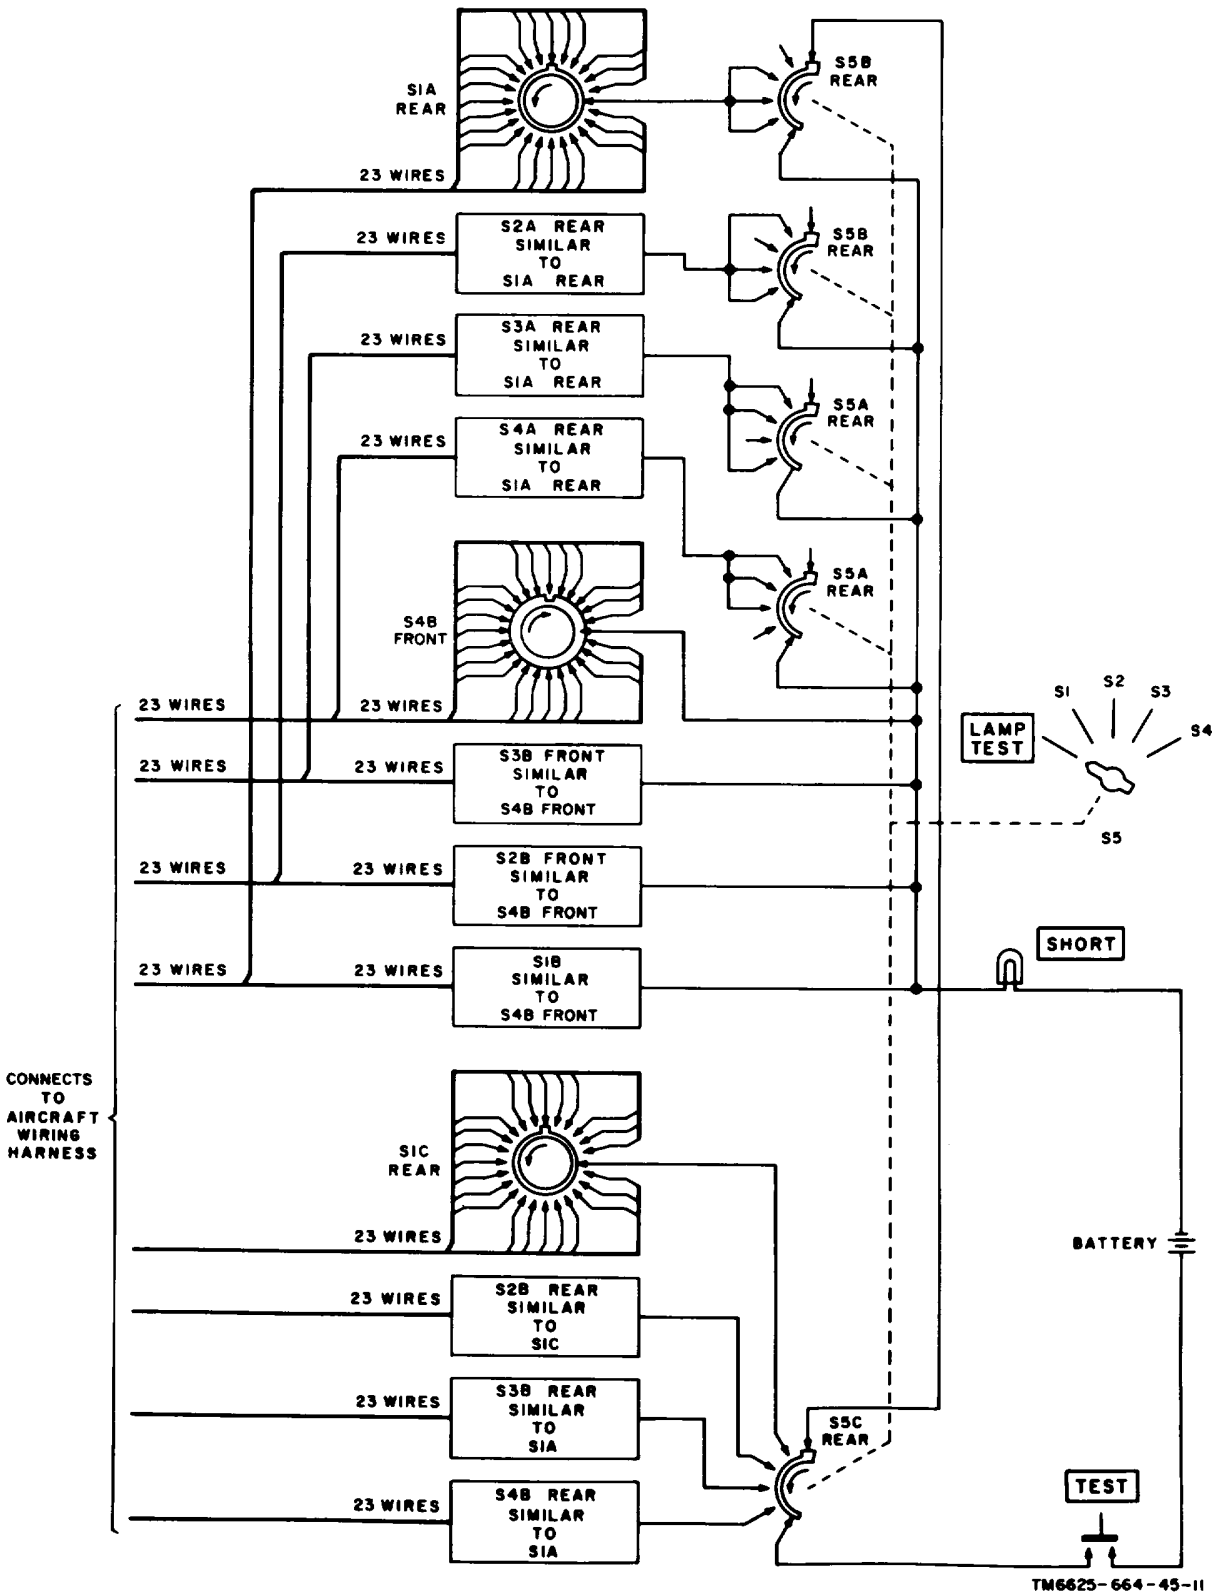

Figure 1-2. Short and ground test configuration simplified schematic diagram.
*b. Testing for Shorts.* (fig. 1-2). The short-testing portion of the TS-2154/APM-246 consists of three parts: wire selector switches, a test selector switch, and an indicator circuit. The wire selector switches short all harness wires together except the one being tested. If the wire being tested is shorted to any other wire in the harness, the SHORT lamp will light. The front and rear B sections of S2 through S4 are wired in parallel (S1B and S1C are similarly wired on S1). The corresponding switch configurations are complementary. The front B sections of switches S1 through S4 short all wires in the harness except the one wire that is left open by the open switch segment. These signal wires are shorted through the rear B sections of S2 through S4 (S1 shorts through the rear C section) and through the A and B sections of S5.